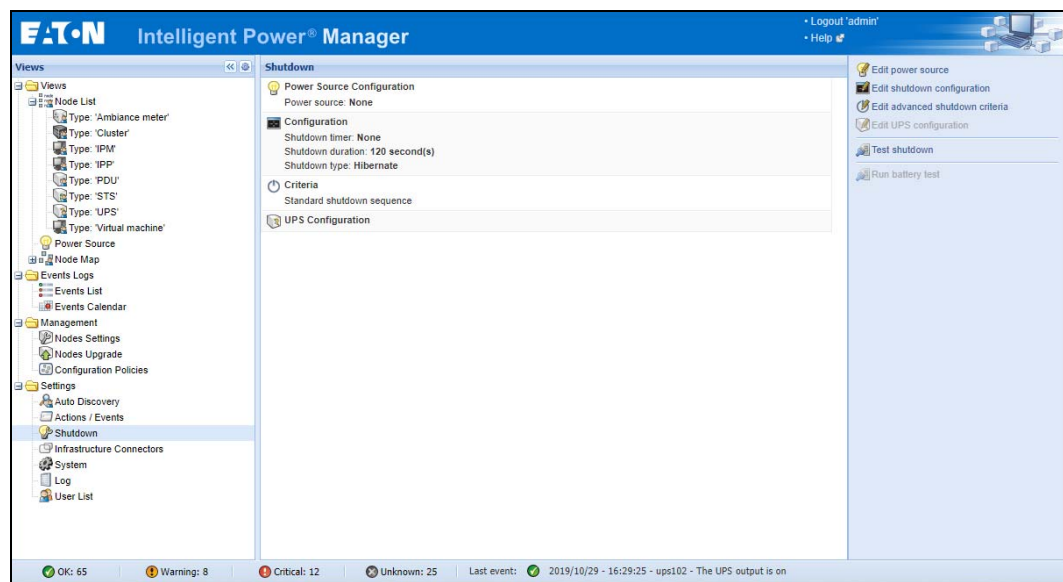

Figure 82. Shutdown Page
1. From the left-side **Views** panel of the Eaton IPM main interface window, select the **Settings > Shutdown** menu item. The Shutdown page displays (see Figure 82).